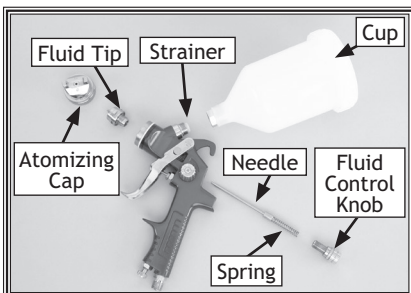

Figure 13. Gun disassembled for cleaning.
4. Disassemble the gun by unscrewing the fluid control knob, removing the spring and needle (**Figure 13**).
5. Unscrew the atomizing cap with your fingers and the fluid tip with the service wrench. The fully disassembled gun should look like **Figure 13**.